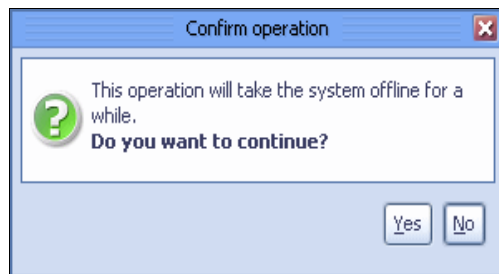

Figure 10-22 ProtecTIER change dimensions: Confirm operation window
13. Click **Finish**. The Confirm Operation window opens (Figure 10-22).